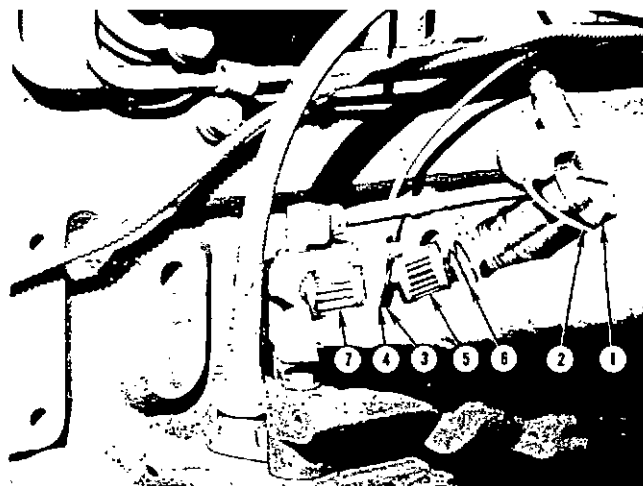

Fig. 5-33, N11940. Fuel pump filter assembly — PT (type G) fuel pump with MVS governor
1. Remove filter cap (1, Fig. 5-33) and dynaseal (2) from governor housing.
2. Remove "O" ring retainer (3), "O" ring (4), screen (5) and spring (6) from filter cap.
3. Using a screwdriver or wire hook, remove bottom screen and magnet assembly (7) from fuel pump housing. Remove screen retainer.